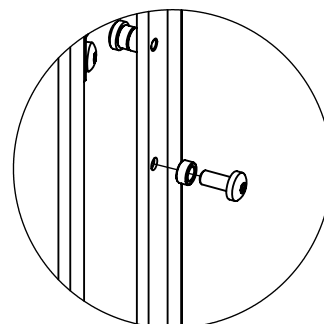

Figure 48: Bushing and Screw: 3-Sided
2. In the case of the 3-Sided Panel, hang the surround on the appropriate hooks depending on the optional surround that will be used with the trimable panel. See Figures 48 and 49.